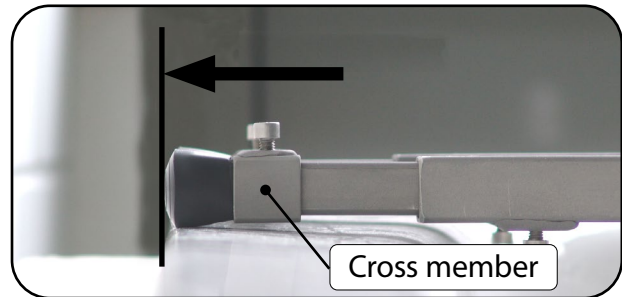

Fig. 6.3.05 – Extending the telescopic tubes
4. Adjust the length of the tub support by extending the telescopic tubes to the outer edge of the bathtub rim (Fig. 6.3.05). Make sure that the two rubber stoppers are fully flush with the bathtub rim!
5. Tighten the two fastening bolts on the telescopic tubes (Fig. 6.3.05).
6. Slide the left-hand cross member as far against the rubber stoppers as it will go and tighten the two fastening bolts (Fig. 6.3.05).